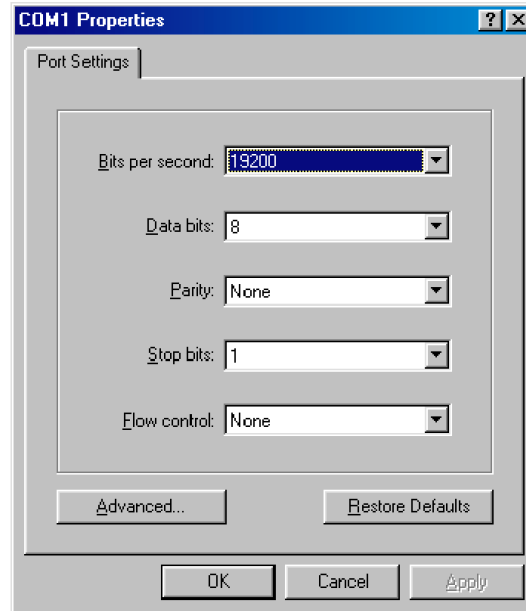

Figure 43. COM properties
- Configure the COM port settings as shown in figure 43.